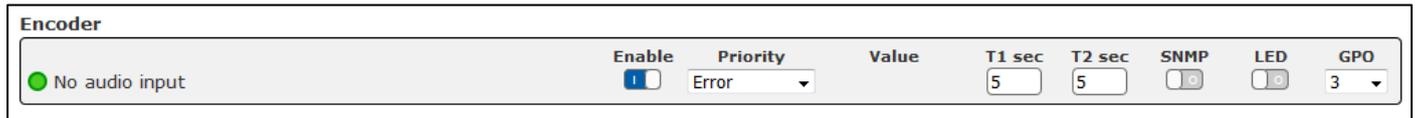

Figure 28: Alarm Settings – indication of audio data in the encoder.
1. Open the configuration field **Encoder** in the window *Alarm* under **System Settings**→**Alarm** in the web interface of the MM01 (see Figure 28).